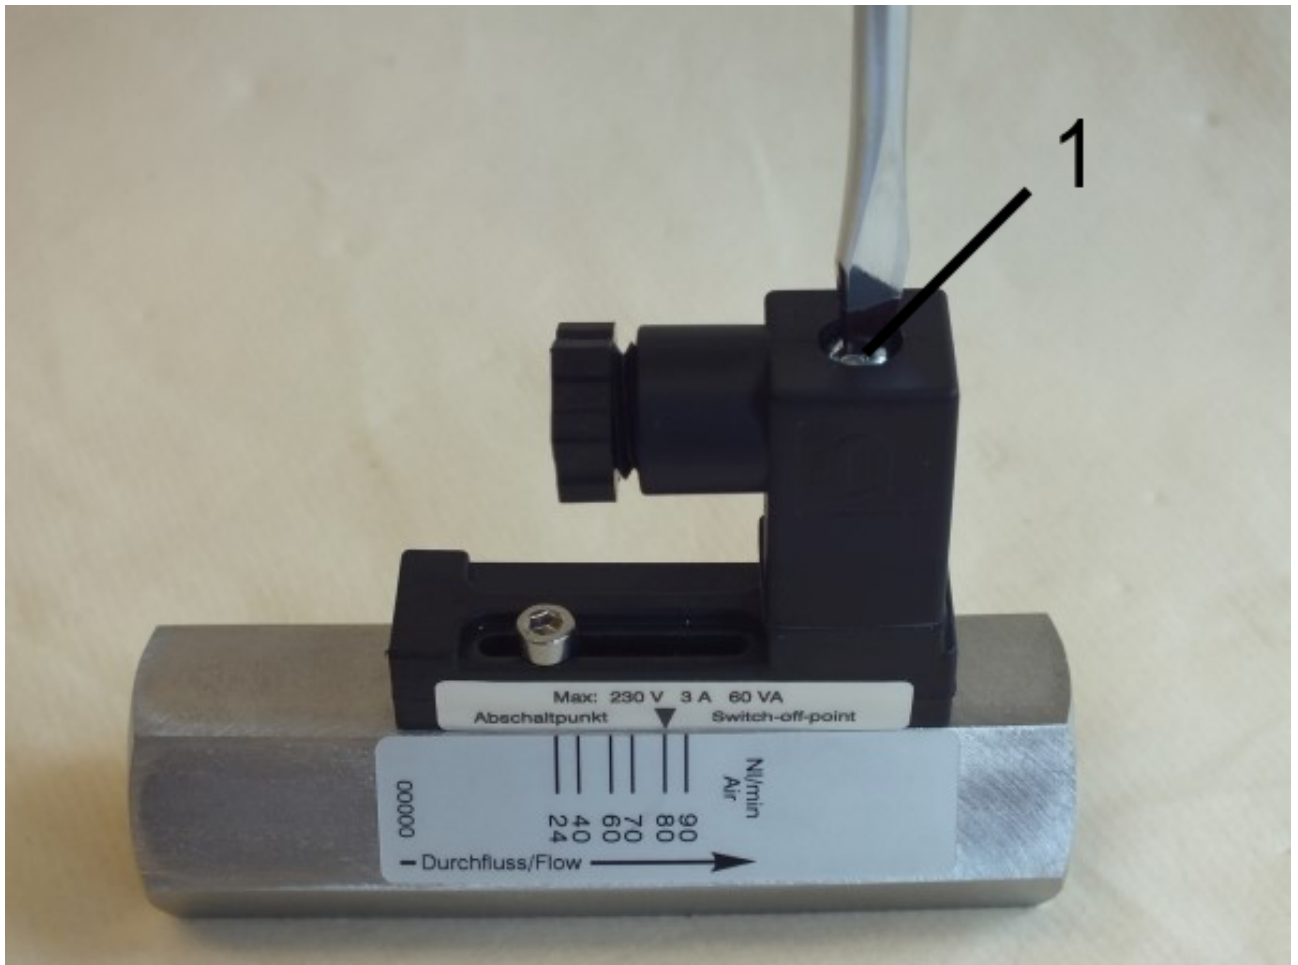

Fig. 44: Loosen female socket
1. ➤ Loosen the fixing screw of the female socket (Fig. 44/1) with a flat-bladed screwdriver.